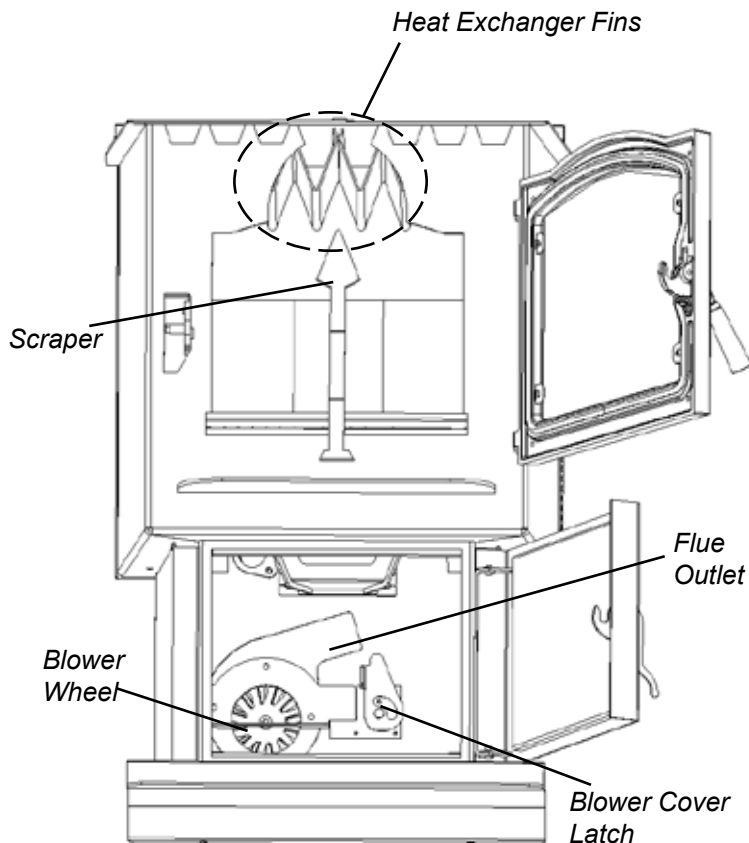
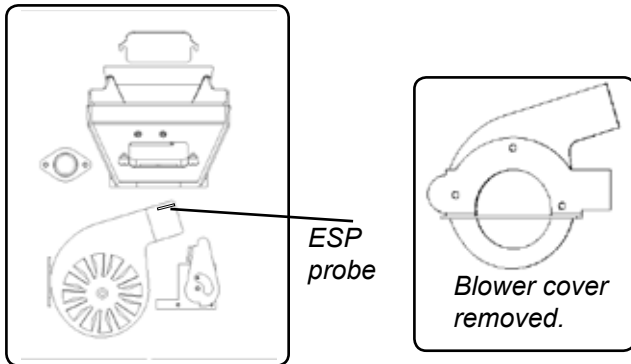

Fig 27
Fig. 30
2. Clean heat exchanger with scraper as shown in fig 27.
7. Remove combustion blower cover by turning the blower cover latch vertical, see Fig.26. Sliding the cover out of the slot on the left. This will expose the combustion blower wheel and flue outlet, Fig.27.
9. Use a brush to clean the flue, being careful not to damage the ESP probe, see Fig. 30. The flue goes straight through into the vent pipe (Fig.27) therefore, the vent pipe can also be cleaned, to some extent, through the flue outlet.